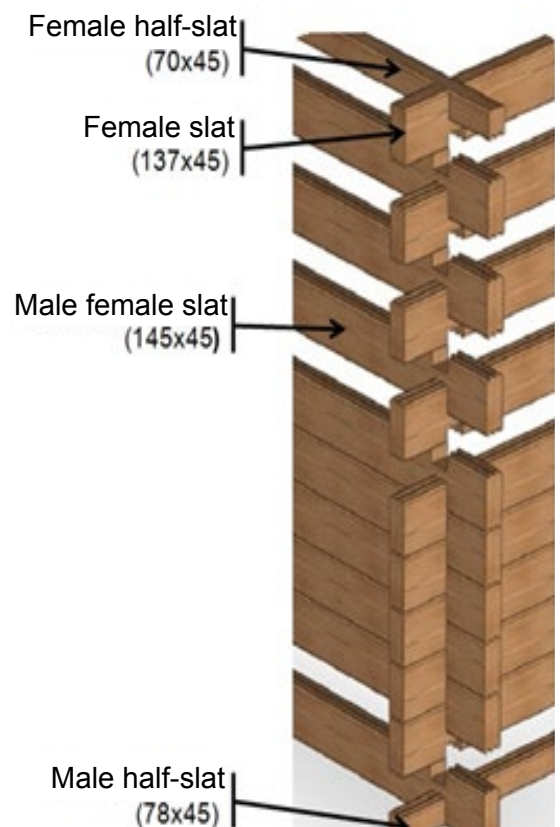
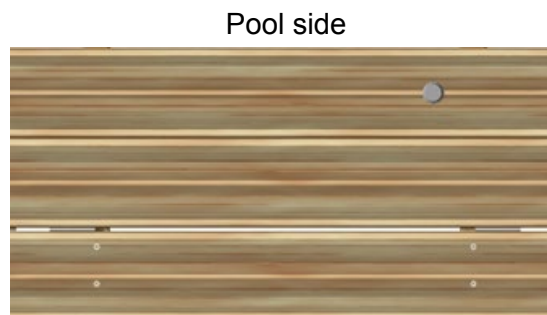

Figure 58 – Slotting together the wooden slats
Figure 65 – Mounting the duckboarding
To finish, fasten the 45 × 45 mm cleat (part no.10 in *Figure 58*) in position using 4 countersunk torx screws 5 × 80 threaded over 50 mm (d). This cleat should be flush with the end of the cover pit slats.
The corner part delivered with the wooden pack of your Urban pool is rectangular. After installing the coping on your cover pit, a triangular space will be left empty. To avoid this situation, swap this part for the part with the pointed end enclosed with the cover pit (part no. 11 in Figure 58).
- Fasten the cleat (part no.10 in Figure 58) to the pool wooden slats using three countersunk Torx screws 5 x 80 threaded over 50 mm (d);
Using 3 countersunk screws 4 × 35 per hinge, mount the two hinges on the edge of a duckboarding coping module 97.5 cm long (part no.7 in *Figure 58*) at the positions indicated in *Figure 65*.
Join the two remaining 97.5 cm coping modules (one of which has been drilled to hold the lock) together with cleats attached from below. Use two countersunk 5 × 40 torx screws, threaded over 25 mm per cleat and per slat, that is a total of 8 screws (c), paying attention to the location of the lock housing and the dimensions shown in *Figure 65*, and leaving a gap of 2 mm between the two copings.
The hatch locking mechanism is comprised of a lock barrel, a lock cam to fitted to the end of the lock barrel, and a strike plate to be fitted to the cover pit slat machined to hold the lock (part no. 2 in *Figure 58*).